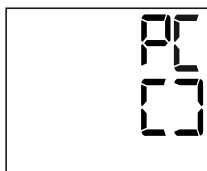

Fig.1
- Start the data transfer using the 'medi.connect' software. An animation is shown on the display during data transfer. See Figure 1 for an example of how a successful data transfer is displayed on the blood pressure monitor.